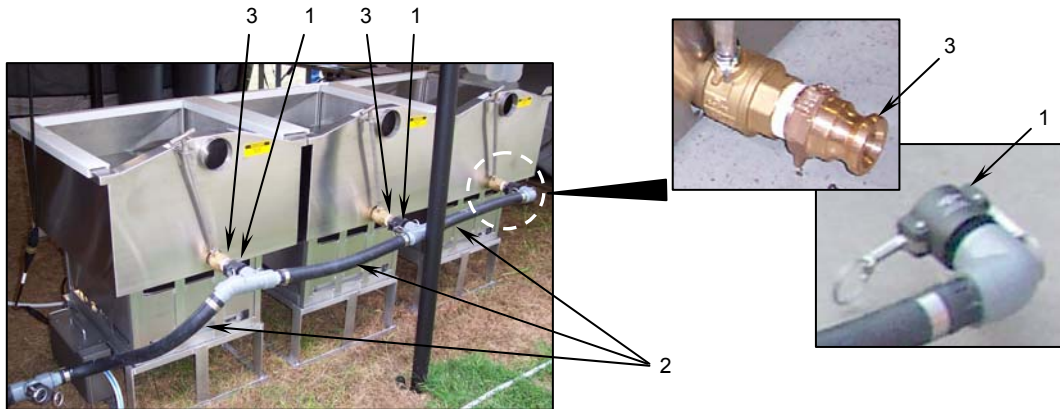

Figure 39. Sink Drain Hose Assembly Removal.
- b. Open the drain hose couplings (**Figure 39, Item 1**) on the drain hose assembly (**Figure 39, Item 2**) and disconnect the hose couplings from the sink drain couplings (**Figure 39, Item 3**).